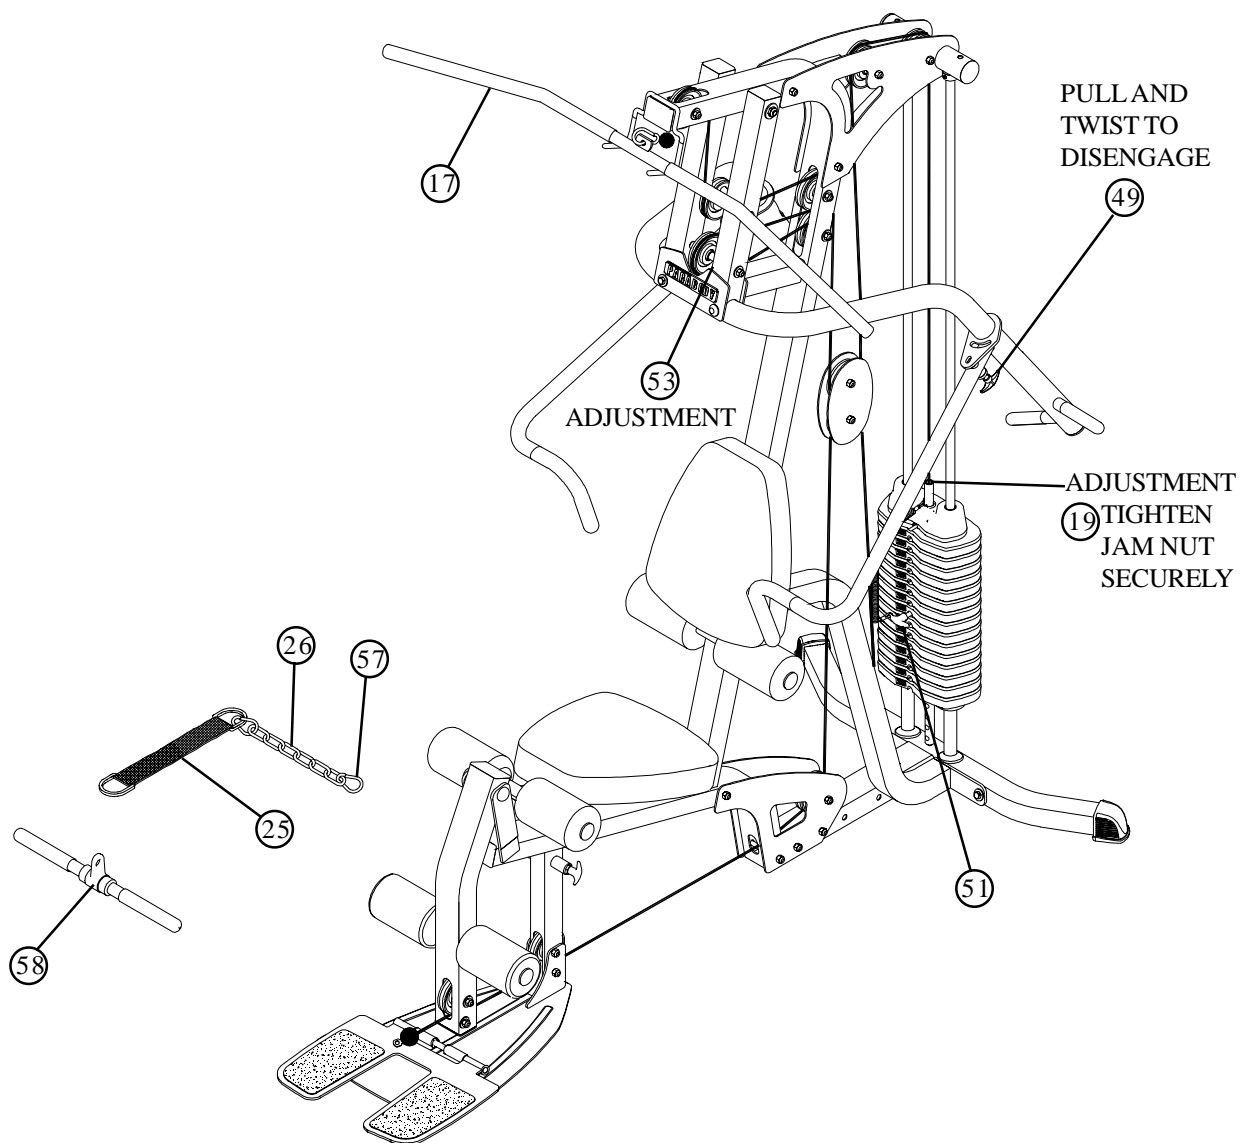

FIGURE 19
- If upon completion of assembly, the HEAD PLATE (19) does not sit on top of the first WEIGHT PLATE (22), push the HEAD PLATE (19) down, insert the WEIGHT SELECTOR PIN (51) and perform several repetitions at the press station. This will relax the cable system and prevent the HEAD PLATE (19) from lifting up. See FIGURE 19
- If after completing previous step, the HEAD PLATE (19) still does not sit on top of the first WEIGHT PLATE (22) or if there is excess slack in the cable system, adjust the threaded end of the LAT CABLE (20) and ADJUSTABLE GLIDE (53) accordingly and retighten the jam nuts. See figure 19
- For maximum performance, the HEAD PLATE (19) should just barely sit on the top WEIGHT PLATE (22)
- Attach the LAT BAR (17) to the ball end of LAT CABLE (20) using one SNAP LINK (57) as shown in FIGURE 19.
- Attach the ANKLE STRAP (25) to the 12 LINK CHAIN (26) using one SNAP LINK (57) as shown in FIGURE 19